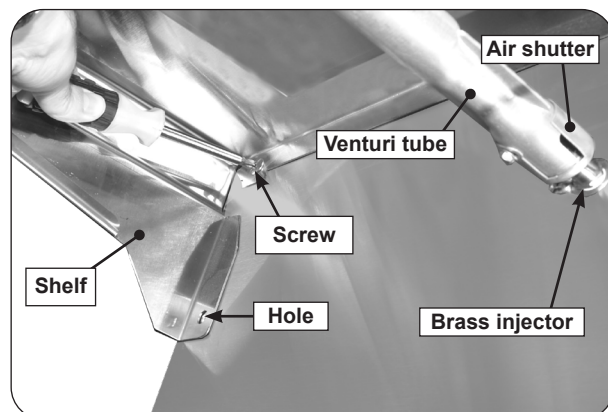

Fig. 23-4 Burner shelf setup (under shelf view)
2. Hold the sideburner shelf up against the left side wall of the grill so that the holes in the shelf line up with the four (4) threaded screw holes in the side wall and the air-shutter end of the sideburner venturi tube fits around the brass injector protruding from the side of the cart. See Fig. 23-4.
3. Insert and start screws with fingers and then tighten using a Phillips screwdriver. See Fig. 23-4.